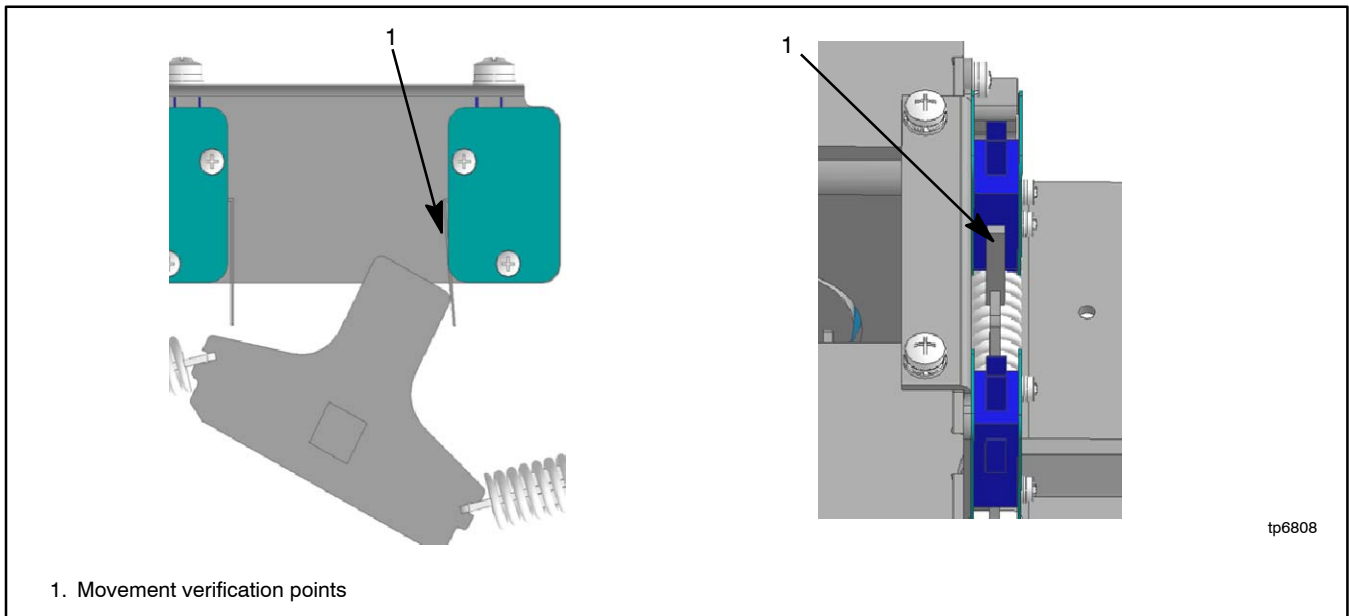

Figure 7-36 Microswitch Movement
3. Check to see if there is a clearance with the microswitch lever by pressing the movement verification point indicated in Figure 7-36. Check the other side also by switching the T-shaped lever to the other side. Even if you replaced only one of the microswitches, it is necessary to check the clearance on both sides.